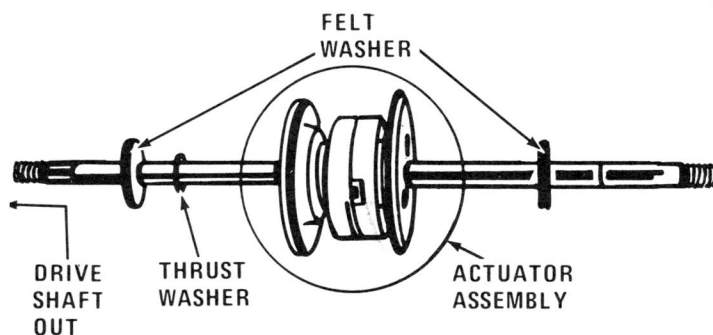

Fig. 14
- d. Remove Forward (LH) and Reverse (RH) Brake Disc Assemblies by pulling straight off. NOTE* Forward or Long Side Assembly has clockwise helics.
- f. Remove felt washers and thrust washer then pull drive shaft out of the Actuator Assembly from the short side. (Fig. 14)